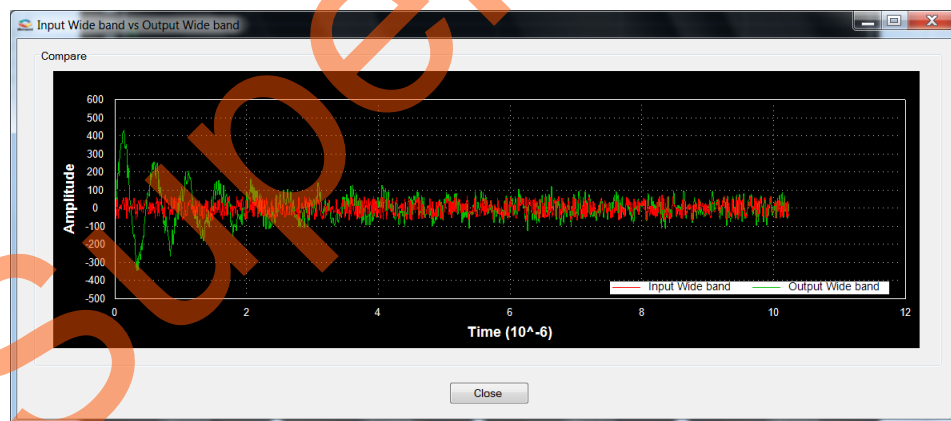

Figure 20 • Comparison of Input Wide Band and Output Wide Band
- A window displaying the comparison between the Input wide band and Output wide band is displayed, refer to Figure 20.